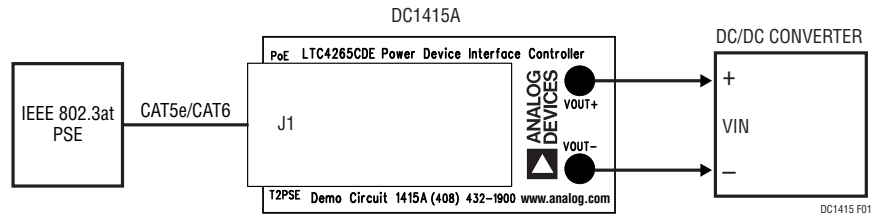

Figure 1. Basic Connection to a DC/DC Converter
- a. Use Figure 1 if the DC/DC converter has sufficient built-in start-up delay. The LTC4265 limits the current to 100mA (typical) during startup; if the DC/DC converter tries to draw more than 100mA (typical) during this time then startup will fail. The required delay depends on the input capacitance and under-voltage lockout threshold of the particular converter.
Many DC/DC converters include startup delay sufficient to prevent this situation. Such a converter may be connected to the DC1415A board as shown in Figure 1.